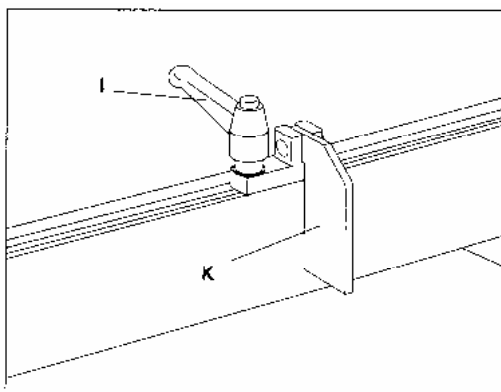

Fig. 3.38
4. Loose locking levers (I) Fig.3.38, and insert nut (J) of stock stop assembly into channel on end of fence as shown.